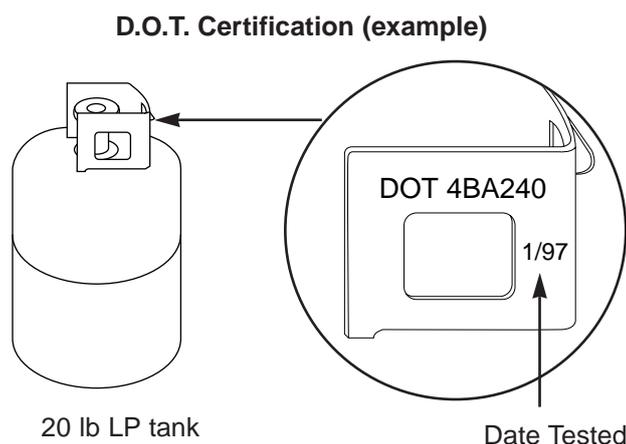

Figure 13
- Replacement LP tanks supplied by Weber satisfy the requirements. Check to be sure the tank has a D.O.T. certification, and has been tested within five years. Your LP gas supplier can do this for you. Figure 13.